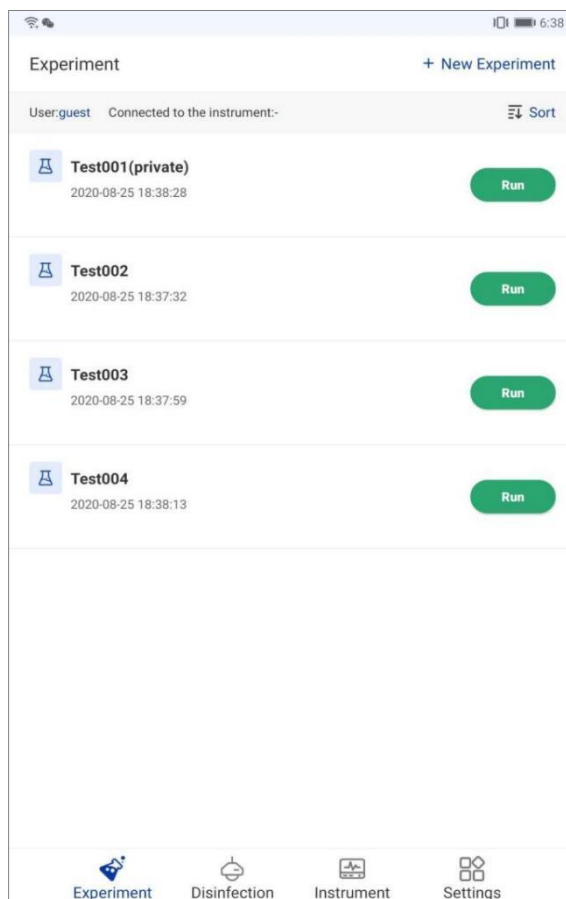

Figure 5-3. Application Software - Experiment Interface
Click <  **Experiment** > and the icon will change into <  **Experiment** >, the main interface will automatically switch to the Experiment interface, where user can add, delete, edit and run/stop experiment, as shown in figure 5-3.
- ▶ After finish editing the experiment, user can click < **Save Experiment** > to save current experiment settings and return to Experiment interface, as shown in figure 5-3.